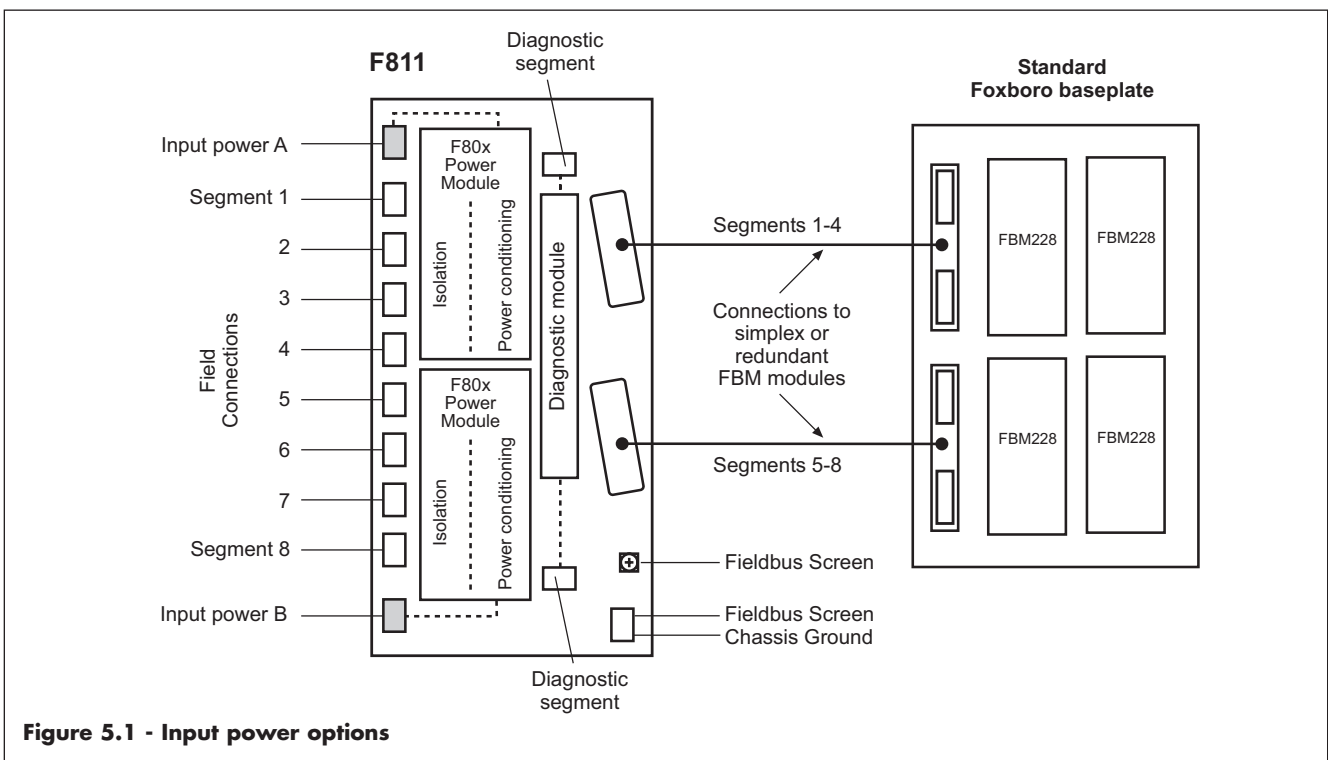
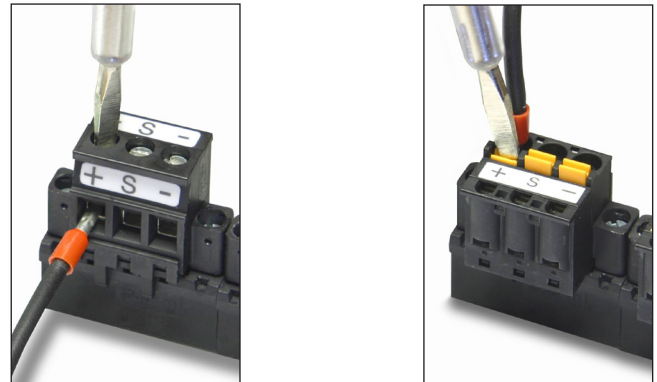

Figure 5.1 - Input power options
Figure 5.5 - Screw terminal and spring-clamp connectors
See Figure 5.1 for additional details.
The F80x modules are powered separately from external bulk power supplies via board-mounted terminals. The upper terminal block (Power A) supplies Power Module A and the lower terminal block (Power B) supplies Power Module B - see Figure 5.1. Connect separate external 19.2 - 30.0V DC supplies to the '+' and '-' terminals of these connectors - observing the correct polarities.
The eight fieldbus segments connections are located on the side of the carrier beside the F80x power modules - as shown in Figure 5.1. The connectors are pluggable and available in a rising cage clamp screw version (-PS) or a spring clamp version (-PC). See Figure 5.5.
**Note:** When wiring to spring-clamp terminals, use a screwdriver with a 3 - 4 mm blade and depress the spring-clamp button before inserting the termination cable. See Figure 5.5.
A protective and EMC ground connection ("Chassis Ground") is available at the same terminal block terminal as the Fieldbus Screen connection point (see Figure 5.1). Chassis Ground is connected internally to the metal cases of the F80x power modules and the F809F diagnostic module and should be connected to the cabinet ground.
The diagnostic segment must be terminated at both ends to maintain the bus impedance within FOUNDATION fieldbus™ limits. A terminator must therefore be connected between the H1+ and H1- terminals of the diagnostic bus connector at the far end of the segment (see Figure 5.5). A suitable terminator for this purpose is MTL type FBT1-IS.